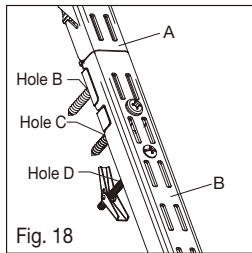

Fig. 18
- Put the lower vertical rail (B) as shown and secure it on hole C with panhead screw (#12 x 2 in.) and on hole D with toggle (3/16 in.) and bolt (3 in.) (see Fig. 18). Make sure the toggle (3/16 in.) and the bolt (3 in.) are installed on lower vertical rail (B) before secure.